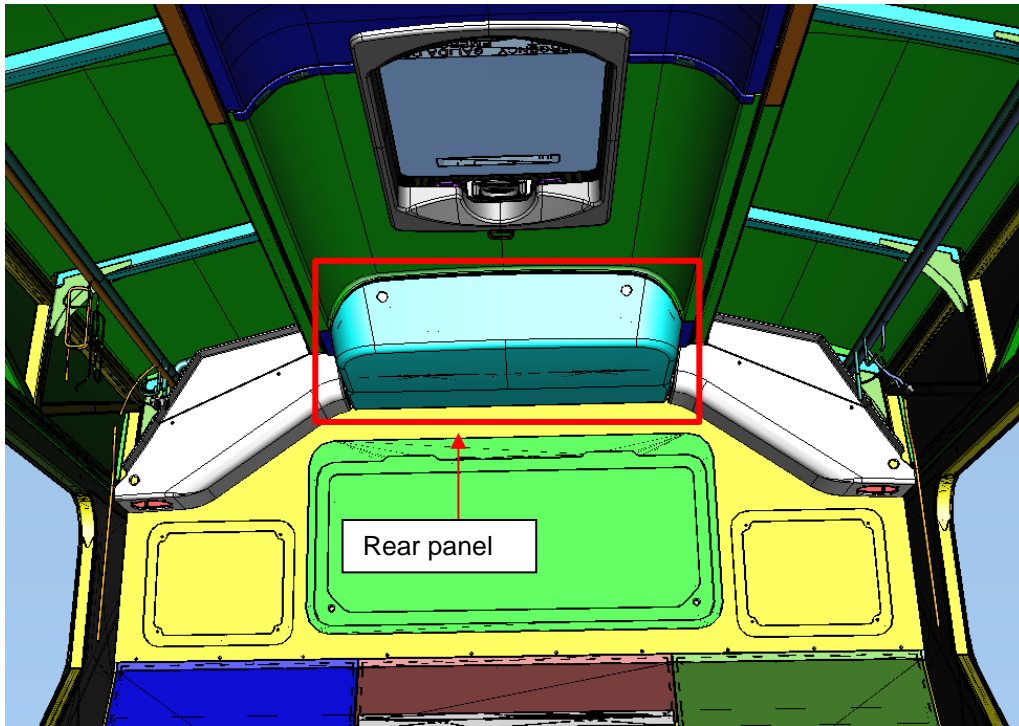

Figure 1: Rear Panel location in the bus
2. Gain access to the rear panel by removing the rear panel cover. See Figure 1 for reference.